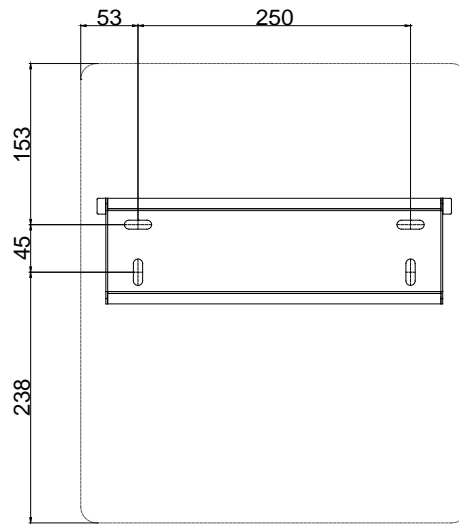

FIG.6-6 Drilling Positions
1) Use the wall-mounting bracket as a template and mark the positions of the drill holes, then drill the 4 holes accordingly, as per FIG. 6-6. (Diameter = 11 mm, Depth  $\geq$  55 mm).
Note: The external dimensions (W x H, 355 x 435 mm) of inverter are shown as dash line in FIG. 6-6.